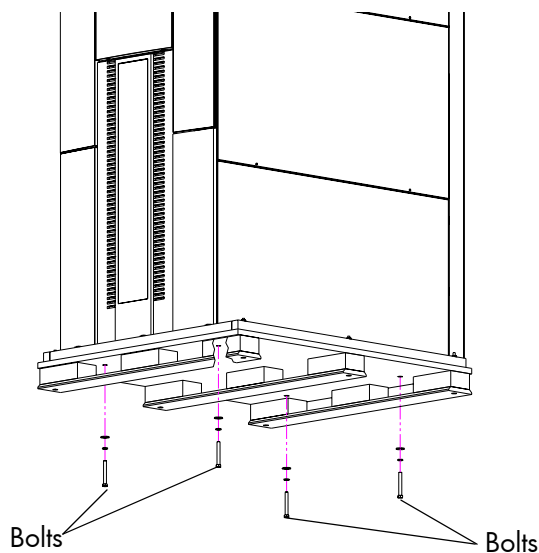

Figure 10: Removing the restraining bolts
10. Remove the four 3/4-inch restraining bolts securing the library to the shipping pallet (see Figure 10). One restraining bolt is located near each leveling foot on the library.